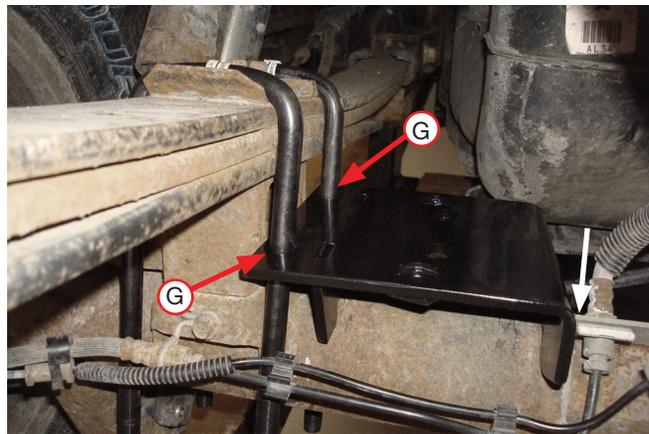

Fig. 11
11. Set the other lower bracket onto the driver's (left) side. Position both lower brackets so they are up against the leaf spring and jounce bumper strike plate/axle spacer assembly. Set the U-bolts (G) into position forward and rearward of the axle. Ensure inside legs of both U-bolts go through the holes in the lower bracket (Fig. 11).